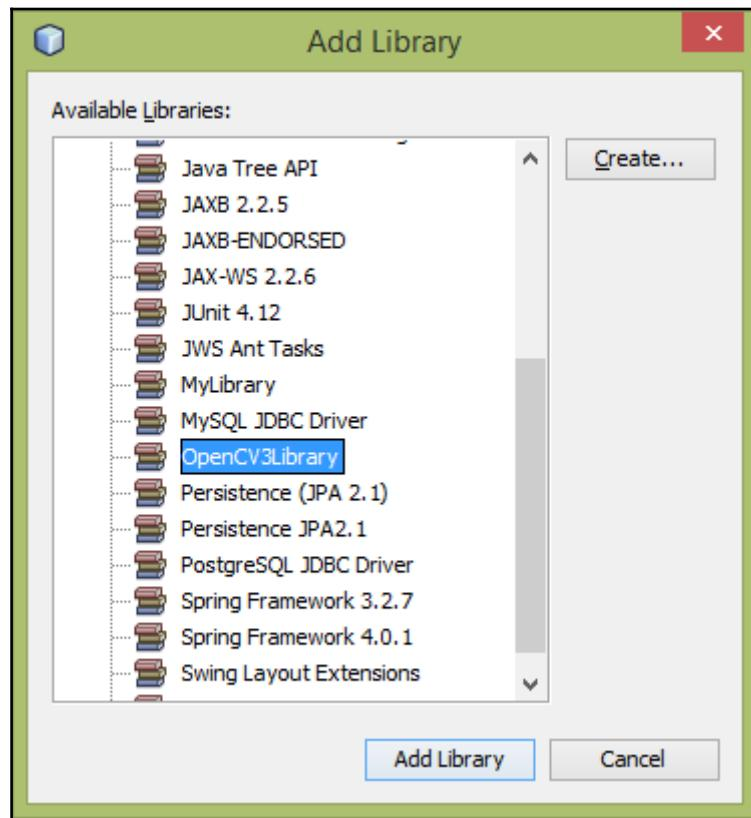

Figure 7-10: Add Library
6. In the **Add Library** dialog box (Figure 7-10), click the **Add Library** button to add the **OpenCV3Library** to your Java project: